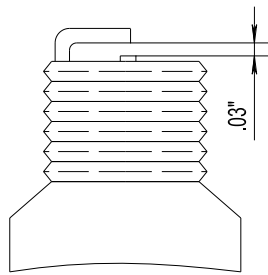

FIG 14
6.9.4 Set the gap between the electrodes on the spark plug at 0.03 inch (0.76mm). (FIG 14)